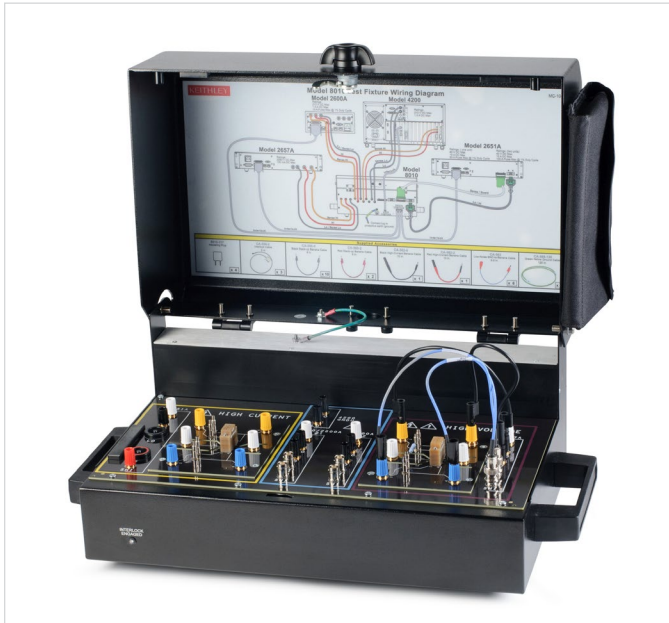

Figure 7: Properly grounded testing fixture.
- Enclose the device under test (DUT) and any exposed connections in a properly grounded fixture such as the Keithley 8010 test fixture as shown in **Figure 7**.